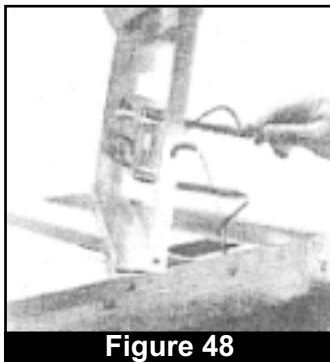

Figure 48
3. Gently lift the air deflector housing to access the nuts connecting wires to the heating element. Remove those nuts and washers to free the wires. (Fig. 48)